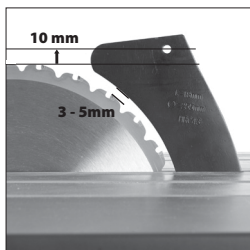

Fig. 16
- Adjust the Riving Knife so that it is between 3 – 5mm from the saw blade. The blade guard mounting hole on the riving knife should be at least 10mm higher than the tooth peak. (**Fig. 16**).